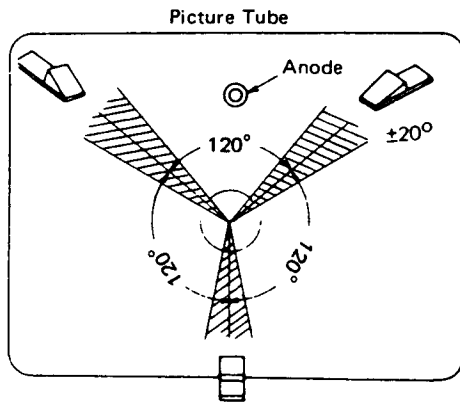
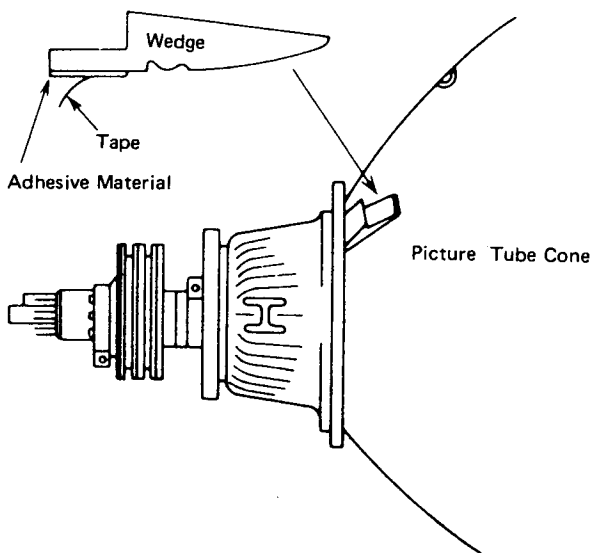

Fig. 12
Fig. 13
- (4) Insert three rubber wedges between the picture tube cone and the deflection yoke at the portions indicated in Fig. 12 without allowing any clearance to remain.
- (5) Observe the entire screen and make sure convergence adjustment is complete. If necessary, change the positions of the wedges and repeat steps (1) and (2) above.
- (6) After the portions to fix the wedges have been decided, gently turn up the end of the wedge and strip the tape from the rear of the end to expose the adhesive material, then return it to adhere to the picture tube cone. (Fig. 13)